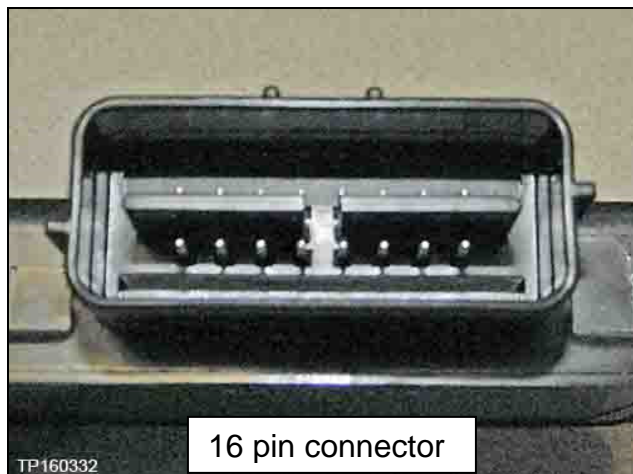

Figure 17
(1) Confirm that the number of pins of the new part are the same as the original (see Figures 17 and 18 on the next page).